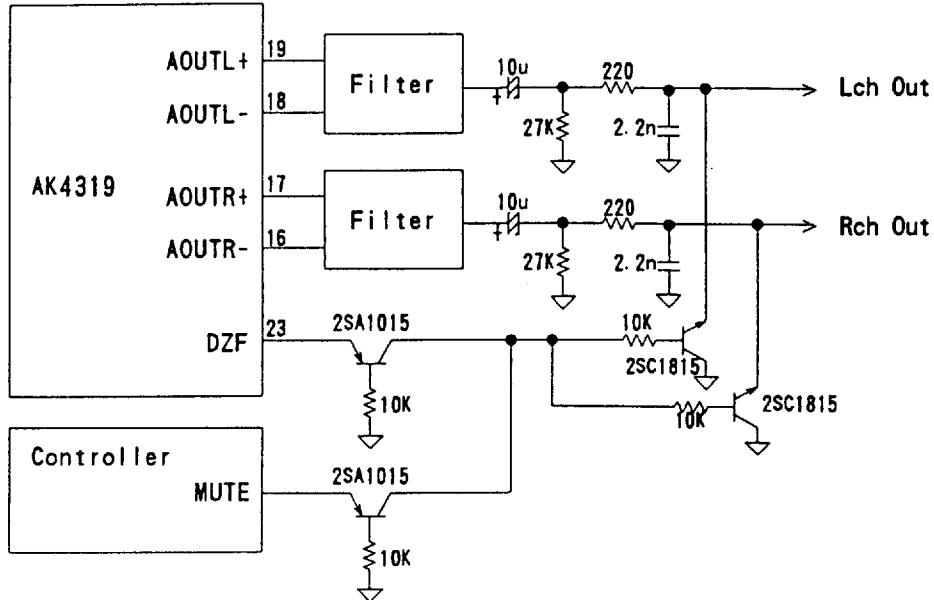

Figure 7. External mute circuit example
- ① Analog output has the group delay(GD).
- ② When power-down is initiated, analog outputs are set into Hi-Z. Outputs noise level is about -110dB.
- ③ Some -50dB of click noise occurs at the transition (" ↓ ↑ ") of PD pin.
- ④ When the master clock is stopped, the AK4319 should have been in the power-down mode.
- ⑤ If the click noise (③) is a problem, an external mute circuit which generates above timing (⑤) is needed. Please refer to Figure 7.
Some click noise may occur at the transition(" ↑ ↓ ") of PD signal. The click noise of PD signal can be avoided by controlling the external mute circuit using the signal like ⑤ in Figure 6. The S/N of -110dB could be achieved by muting the analog outputs using DZF signal. The external mute circuit example is shown in Figure 7.